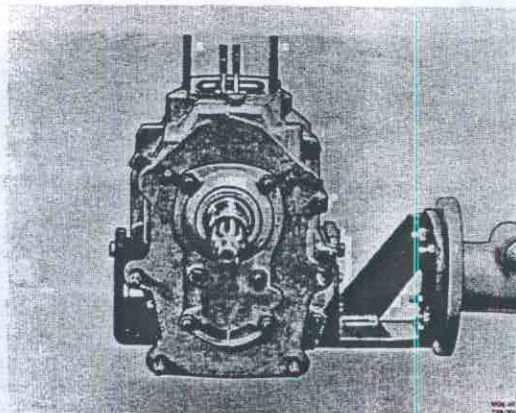

Fig. 43-56. Front cover
15. Remove the front cover, Fig. 43-56. Remove the shims for the input shaft and intermediate shaft.